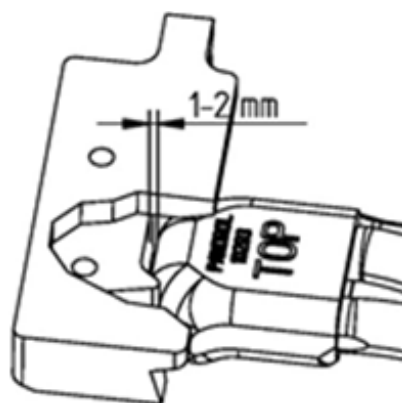

Fig 49.
4. Make sure there is a space of 1-2 mm between the clips and the claw when positioning the de-clipping pads for an optimal function ("Fig 49.").